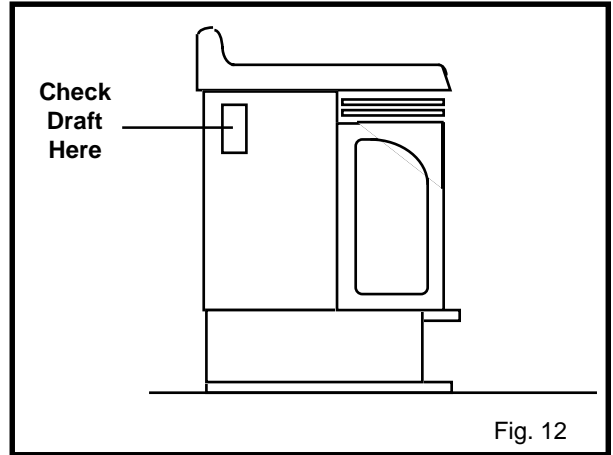

Fig. 12
- 3) After several minutes, test with smoke match that there is adequate "pull" at the draft hood opening (located on the sides of the fireplace near back. See Figure 12) If the flue is blocked (match being blown back into room) the Vent Safety Switch will automatically shut down the heater.